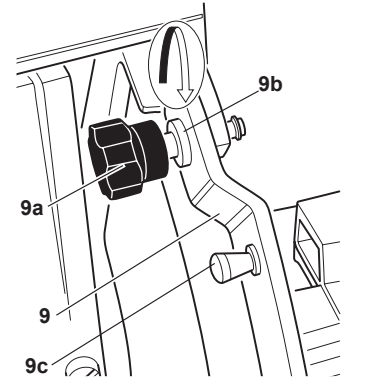

Figure 14-2
10. Close the knife guard (9). Loosen, but do not remove the top and bottom knobs (9a) on the knife guard (9) (Figure 14-2).
12. Tighten the top and bottom knobs (9a) on the knife guard (9).